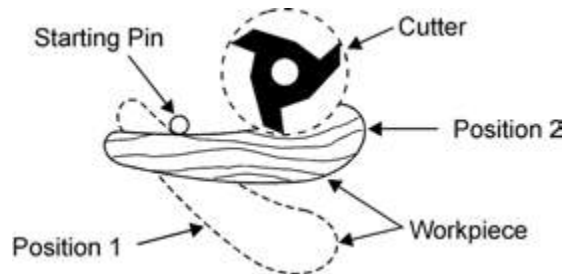

Figure 45
When the workpiece is not contoured all around, start the cut as shown in Figure 45. With this operation, the workpiece is positioned against the starter pin and the end swung into place to start the cut. When the cut has begun and the workpiece firmly against the collar, swing the stock away from the pin and proceed with cut.
- The work should be placed in the *position 1*, (Figure 45), using the starting pin as a support.